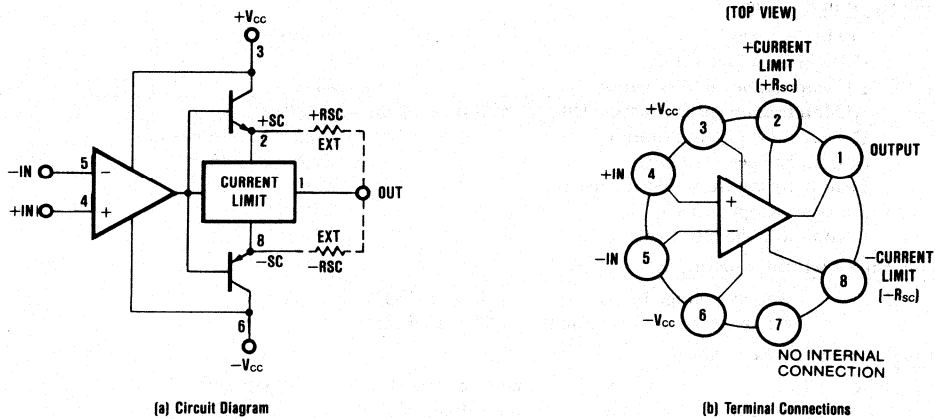

FIGURE 2. Circuit Diagram and Terminal Connections.
3.2.7 **Circuit diagram and terminal connections.** The circuit diagram and terminal connections are shown in Figure 2.